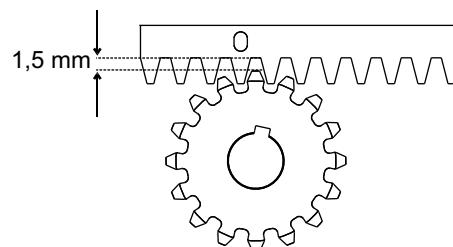

Fig. 10
**5.6.** To avoid that the door weights down on the pinion (Fig. 10) lift up the whole rack about 1,5 mm.